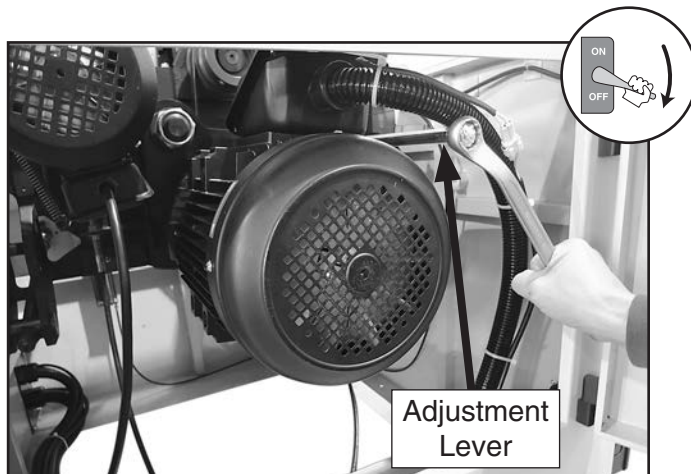

Figure 86. Location of main motor adjustment lever.
2. Open motor cabinet door and locate motor adjustment lever shown in **Figure 86**.